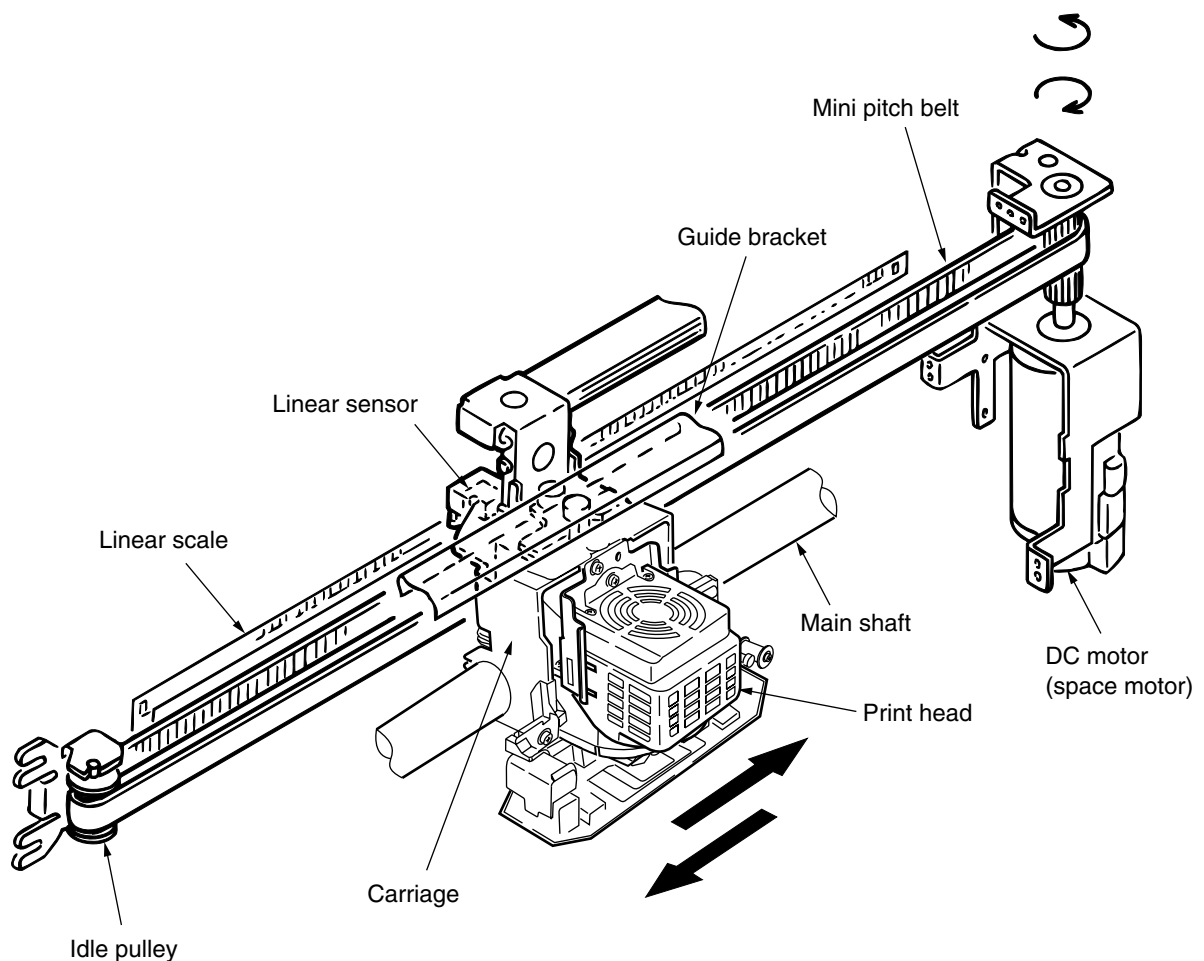

Figure 12-5 Spacing Mechanism
1) Spacing operation (See Figure 12-5)